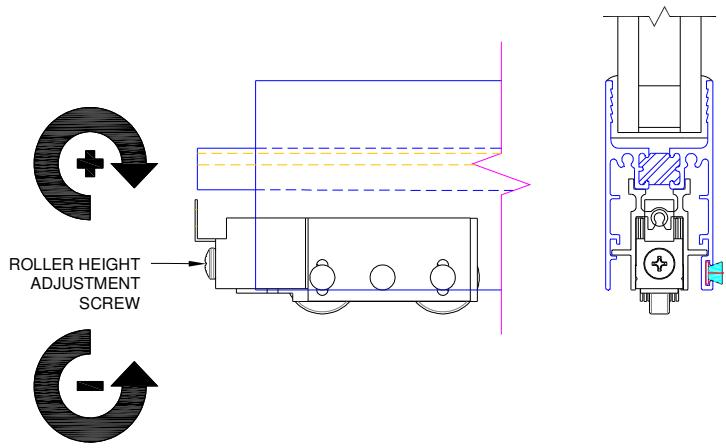

Figure 6:
1. Adjust the roller assemblies (2 required per “X” panel) to the full up right position using the adjustment screw (Figure 6). Ensure the roller and the roller housing are positioned correctly in the bottom rail.
1. Remove the sill filler from the frame assembly (Figure 6).